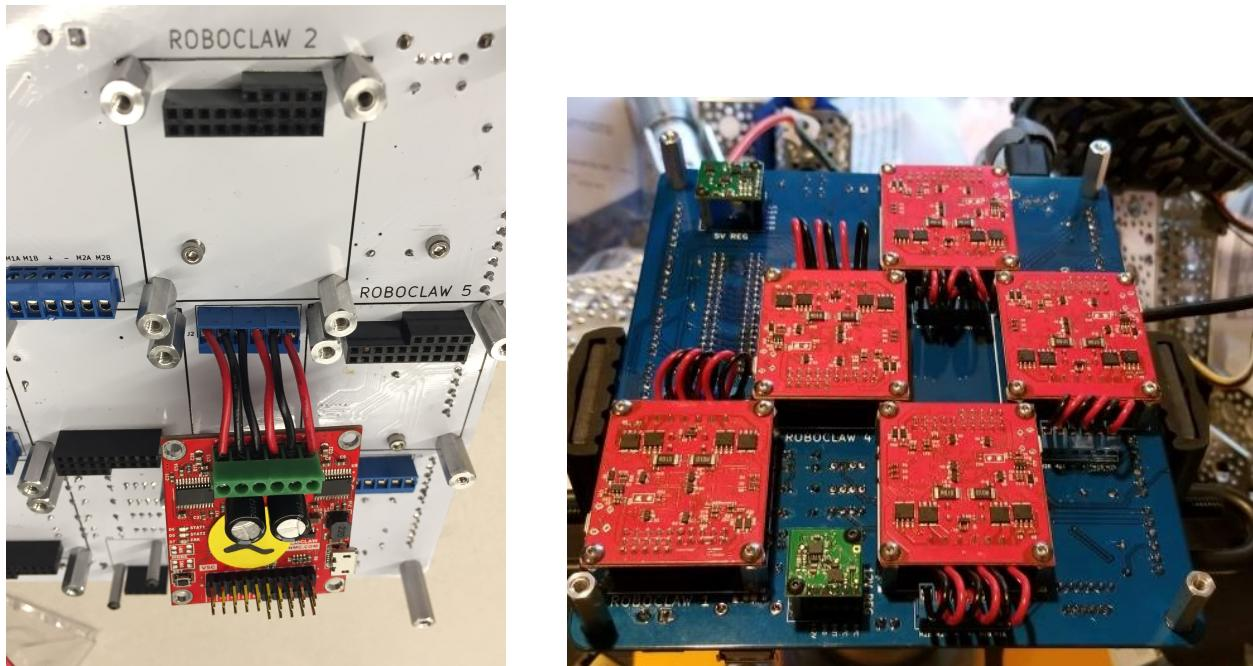

Figure 26: RoboClaw power/motor wires
2. Connect the wires directly across from RoboClaw motor terminal block to the terminal block on the control board as shown in Figure 26.